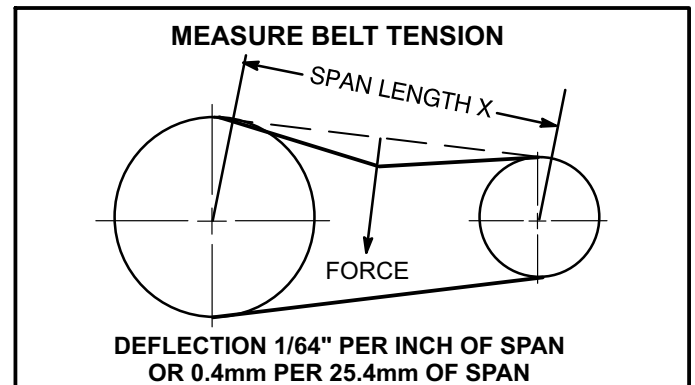

FIGURE 13
- 1- Measure span length X. See figure 13.
- 2- Apply perpendicular force to center of span (X) with enough pressure to deflect belt 1/64" for every inch of span length or 0.4mm per 25.4mm of span length.